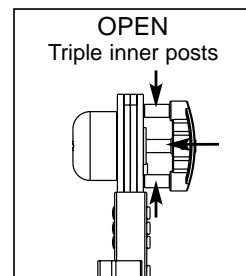

Figure 2
- 2) In the open position (See Figure 2) the ladder angle can be adjusted.
**Note:** The open position can be verified by the exposed triple inner posts on the push knob (See Figure 2).